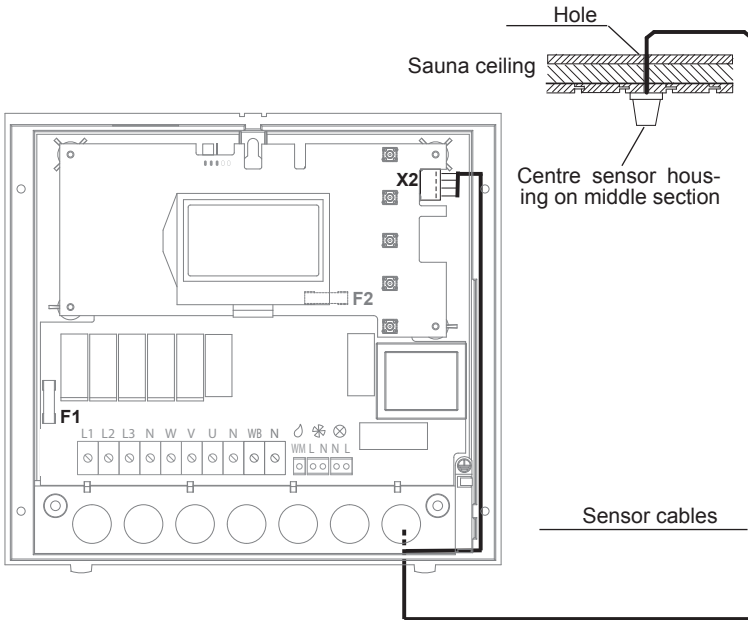

Fig. 11
5. Lead the sensor cables through the right cable intake into the control unit. Install the sensor cables inside the control unit as shown in Fig. 11. Connect the sensor cables as shown in Fig. 12. In order to do this, pull the plug X2 from the circuit board and plug it back in after the connection.